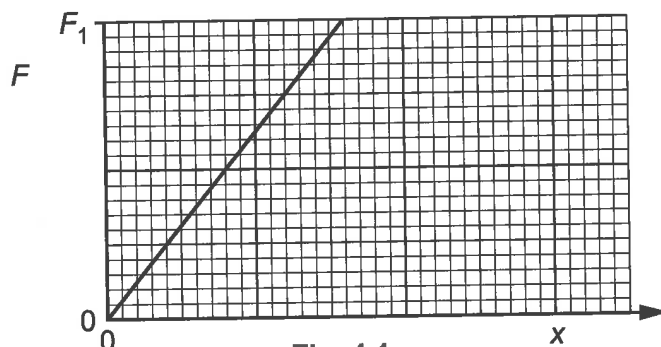

Fig. 4.1
- (b) (i) A school experiment is performed on a metal wire to determine the Young modulus of the metal. A force is applied to one end of the wire which is fixed at the other end. The variation of the force F with extension x of the wire is shown in Fig. 4.1.
The gradient of the graph line in Fig. 4.1 is G . The wire has initial length L and cross-sectional area A .
- (ii) A student repeats the experiment in (b)(i) using a new wire that has twice the diameter of the first wire. The initial length of the wire and the metal of the wire are unchanged. On Fig. 4.1, draw the graph line representing the new wire for the force increasing from $F = 0$ to $F = F_1$. [2]